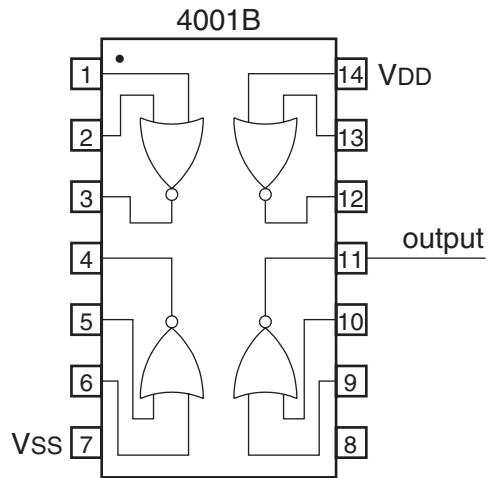

Fig. 11 [2]
- (ii) The circuit is to be constructed using a quad 2 input NOR integrated circuit. Complete the diagram in Fig. 11 to show the connections to the logic IC. Connections must not be drawn inside the IC outline.